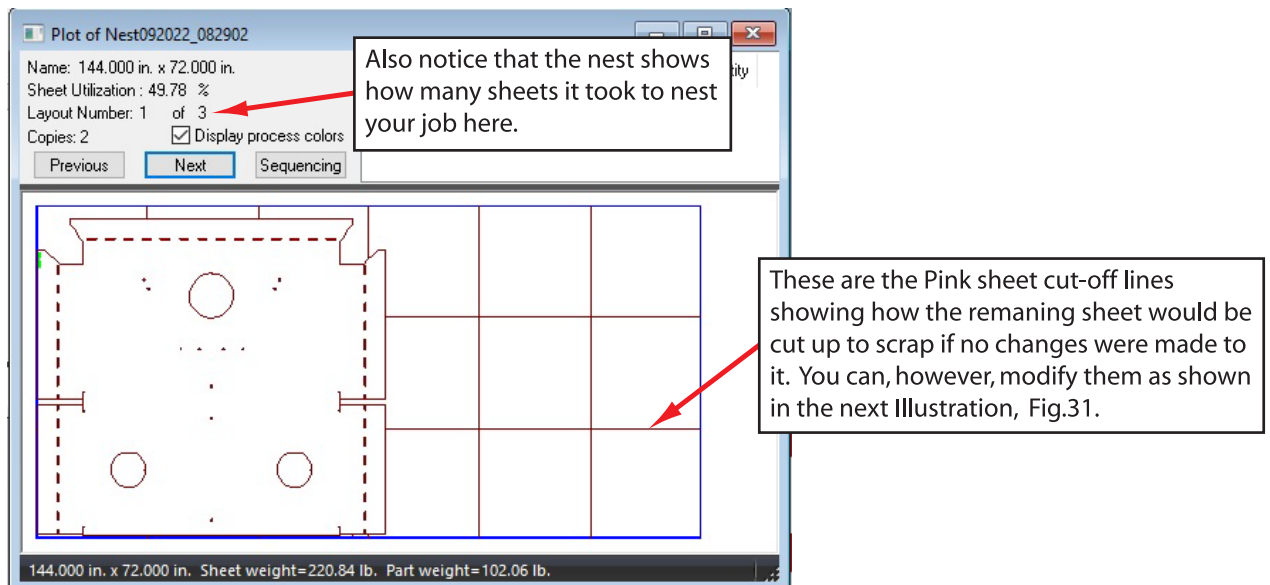

Fig.30
35) After you have run the nest, another window will open which is your work space. It will show you the nest including all sheets if multiples, and will show you all the skeleton cut-off lines of how the remaining scrap will be divided up to discard or save. Notice the Pink Grid Lines on the right side of the sheet below Fig.30, those are the scrap cut-off line of the remaining pieces to be scrapped if so desired. If you were wishing to save that half of sheet of material, you would just trim away the unwanted lines and create a new single cut-off line manually at a location you decide. See Fig.31.
- 37) After you have made sure all the parts you need are now nested on your nest and your nest is ready to modify the cut lines, as shown back on Fig.30, continue with any revisions you need to make. Don't forget to take notes from Fig.33 on the next page to make sure you include everything that will be needed for your job.